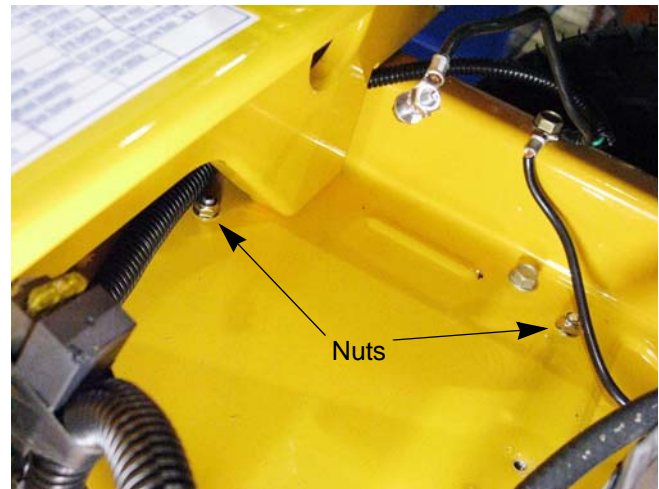

Figure 4.17
4. Remove the nuts that hold the right belt guard to the frame using a 7/16" wrench. See Figure 4.17.